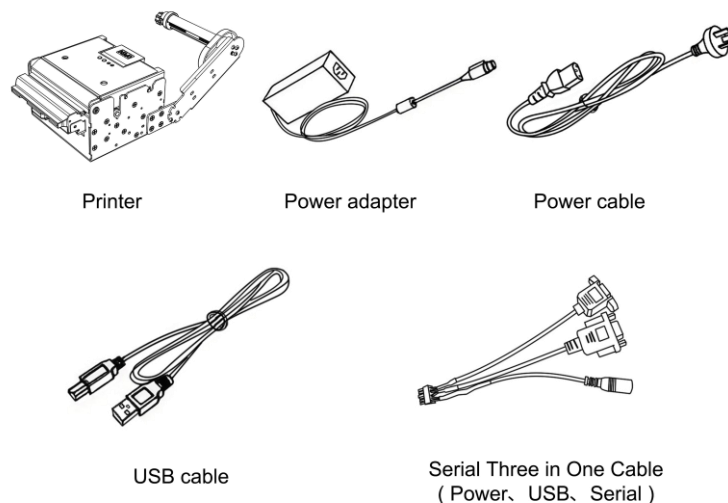

Figure 1-1
- 2) Make sure you have all the items shown in Figure 1-1 and check for shipping damage.